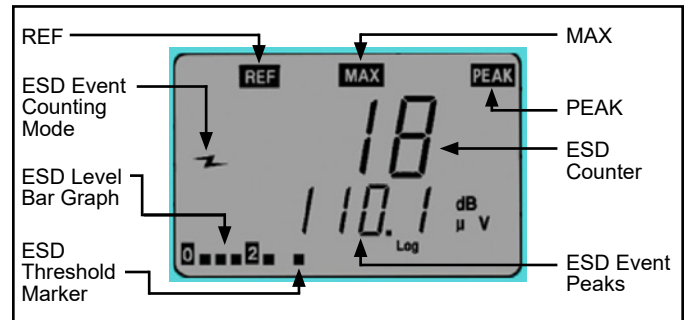

Figure 6. ESD Event channel
1. Toggle the joystick until the ESD Event channel is displayed (Figure 6).